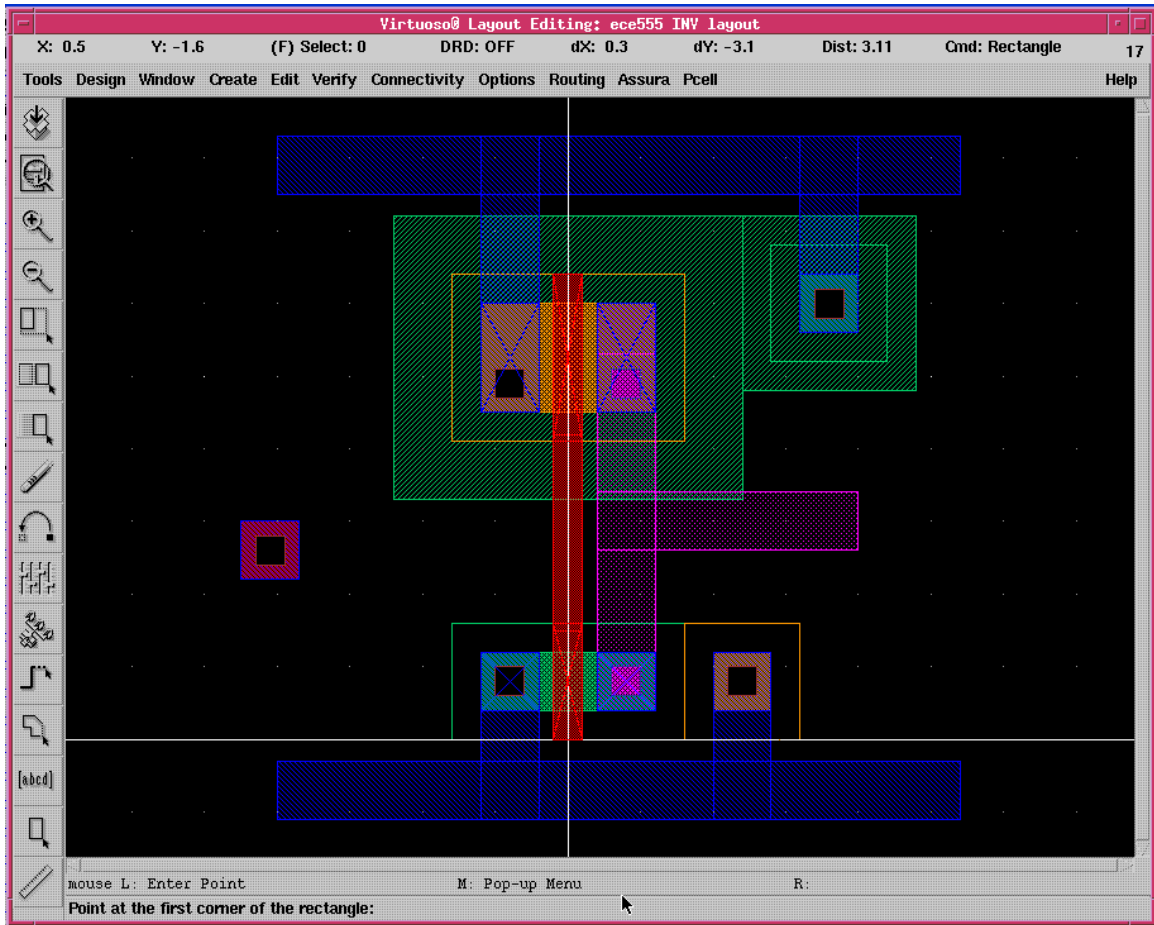

Fig. 13. Circuit after connecting the gates
- Connect the gates of the two transistors using a poly layer, as shown in Fig. 13.